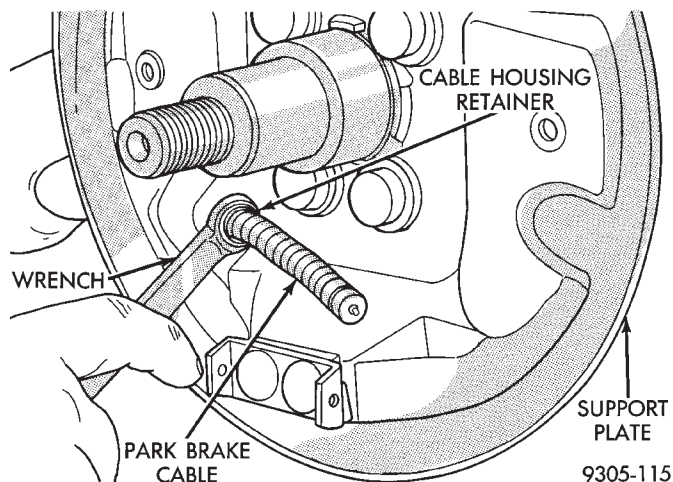

Fig. 8 Removing Park Brake Cable From Support Plate
(5) Position a 1/2 wrench over the retainer fingers on the end of the parking brake cable (Fig. 8). Com-
press cable housing retaining fingers and start housing out of support plate (Fig. 8). Remove wrench when retainer is free from the park brake cable mounting hole in the rear brake support plate. Alternate method is to use a aircraft type hose clamp over cable housing end fitting compressing the three fingers.